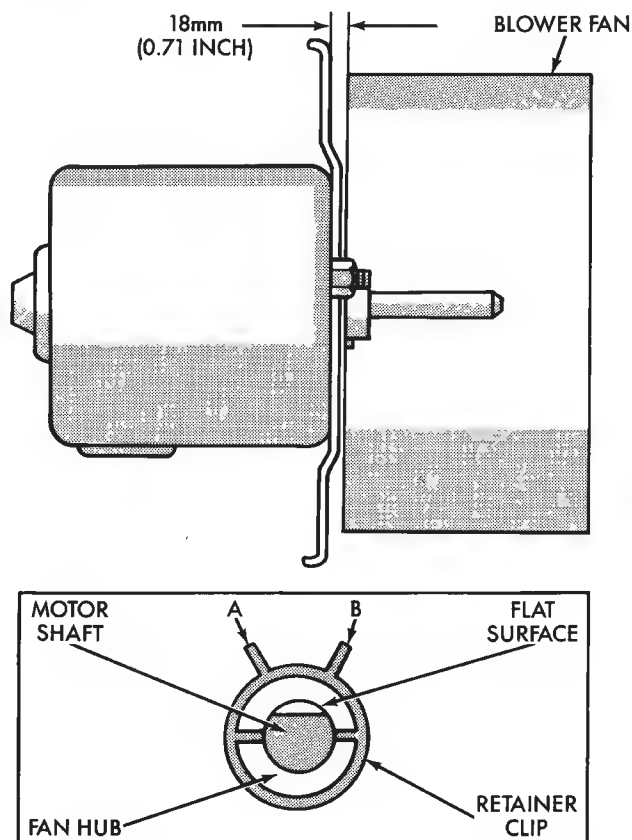

Fig. 11 Blower Fan
(4) Remove the blower motor fan from the motor shaft for access to the motor attaching nuts (Fig. 11). To install the blower fan and motor, reverse the removal procedures.
(5) Remove the blower motor fan from the motor shaft for access to the motor attaching nuts (Fig. 11). To install the blower fan and motor, reverse the removal procedures. **The ears (A) and (B) of the retainer clip must be over the flat surface on the motor shaft (Fig. 11).**